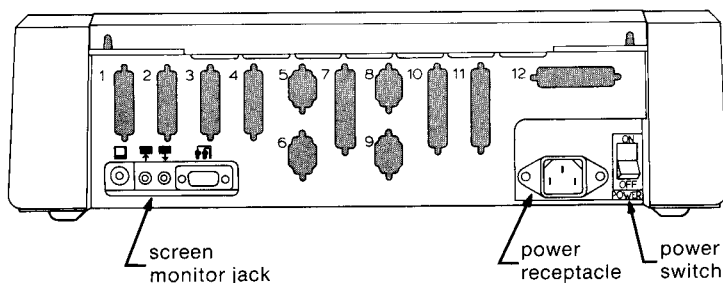

Figure 2.2. Apple IIe Rear Panel
1. Set the Apple IIe POWER switch to OFF (see Figure 2.2).